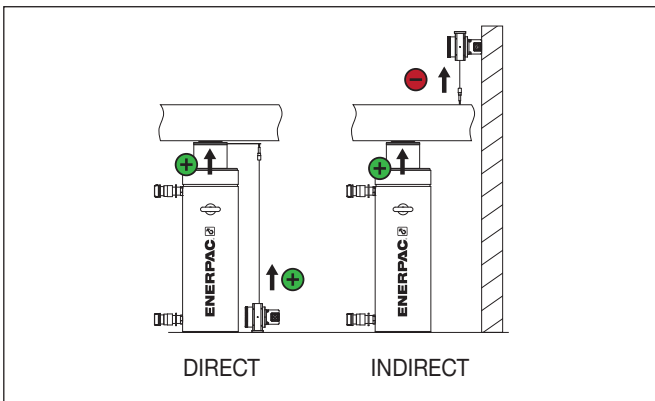

Figure 17: Direct and Indirect Layout
- Position sensor scale: Depending on where the stroke sensor is placed, the user must select between direct or indirect movement. When the cylinder's plunger movement and the stroke sensor's wire are extending (positive movement), the movement is called direct. When the cylinder is extending but the stroke sensor wire is retracting (negative movement) the movement is called indirect. Refer to Figure 17 for further details.